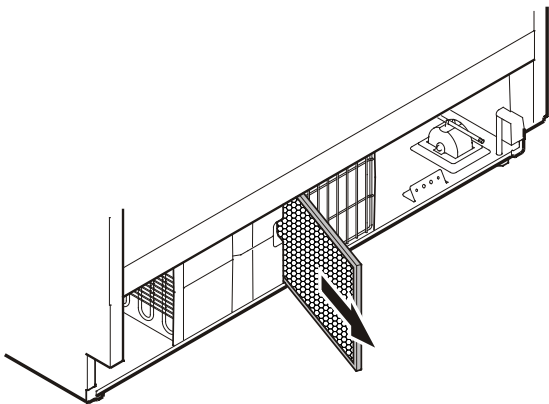

Figure 25
- Remove the dust filter (**Figure 25**) and clean in a dishwasher or by hand with lukewarm water and dishwasher detergent.